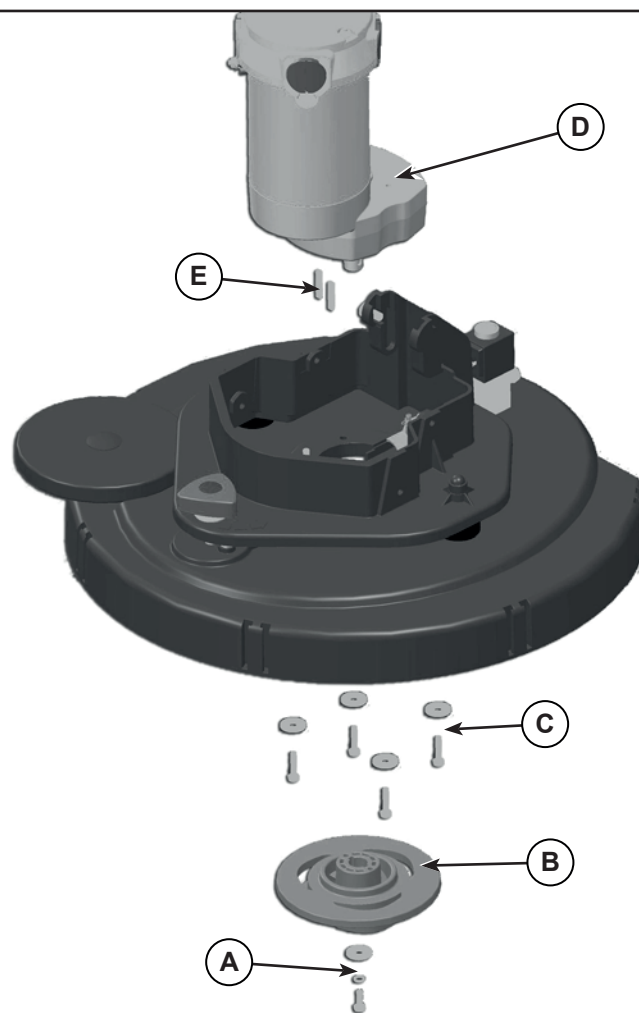

Figure 12:
2. At the workbench, remove the screw (A) (Figure 12) of the brush motor.
3. Use a puller to remove the brush hub (B).
4. Remove the screws (C).
5. Remove the brush motor (D).
6. Recover the key (E).
2. Place two wooden shims (B, Figure 12), at least 4 cm thick, under the brush deck (A).
8. Disconnect the actuator connection (C) on the Main machine controller (D).
9. Remove the 4 screws (E) and remove the actuator plate (F).
10. Remove the screw (G) and release the actuator lower pin (H).
11. Disassemble the actuator (H) by unscrewing the upper pin (I).